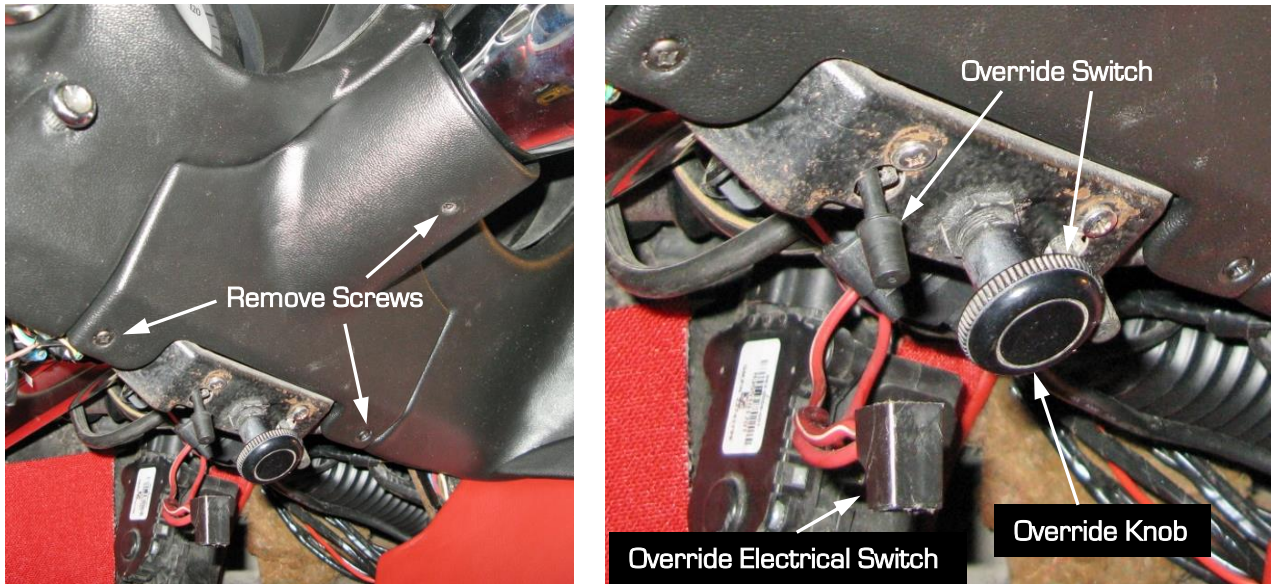

Figure 25 – Remove Lower Column Cover
23. To remove the steering column, start by removing the 2 screws from the lower column cover. **NOTE:** There may be 3 screws if you have an aftermarket steering column. You may find the vacuum over ride switches and/or the wiper over ride electrical switch (1968-72) attached to the cover (Figure 25). Remove the lower left hand side dash vent duct.